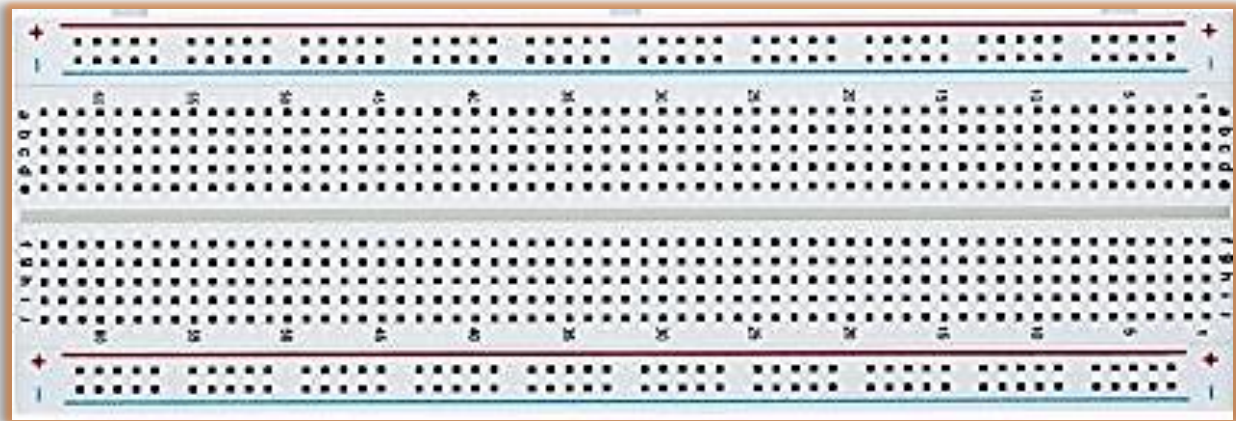

Figure3a, front of breadboard
- a. A so-called breadboard, fig.3a